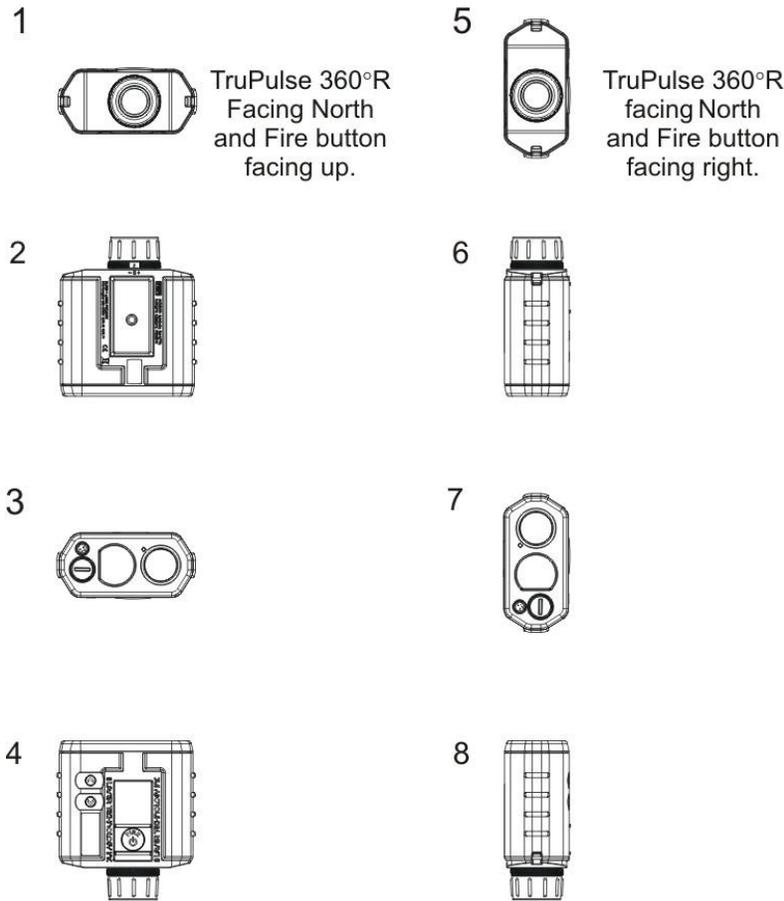

Figure 5. The TruPulse compass calibration routine.
8. Place the TruPulse facing magnetic North (within 15 deg of N) on a relatively flat surface or hold it while maintaining it flat (within 15 deg of level). To calibrate the compass, follow the sequence outlined in **Figure 5** below. The TruPulse provides confirmation after each step in **Figure 5** is completed by displaying the following: